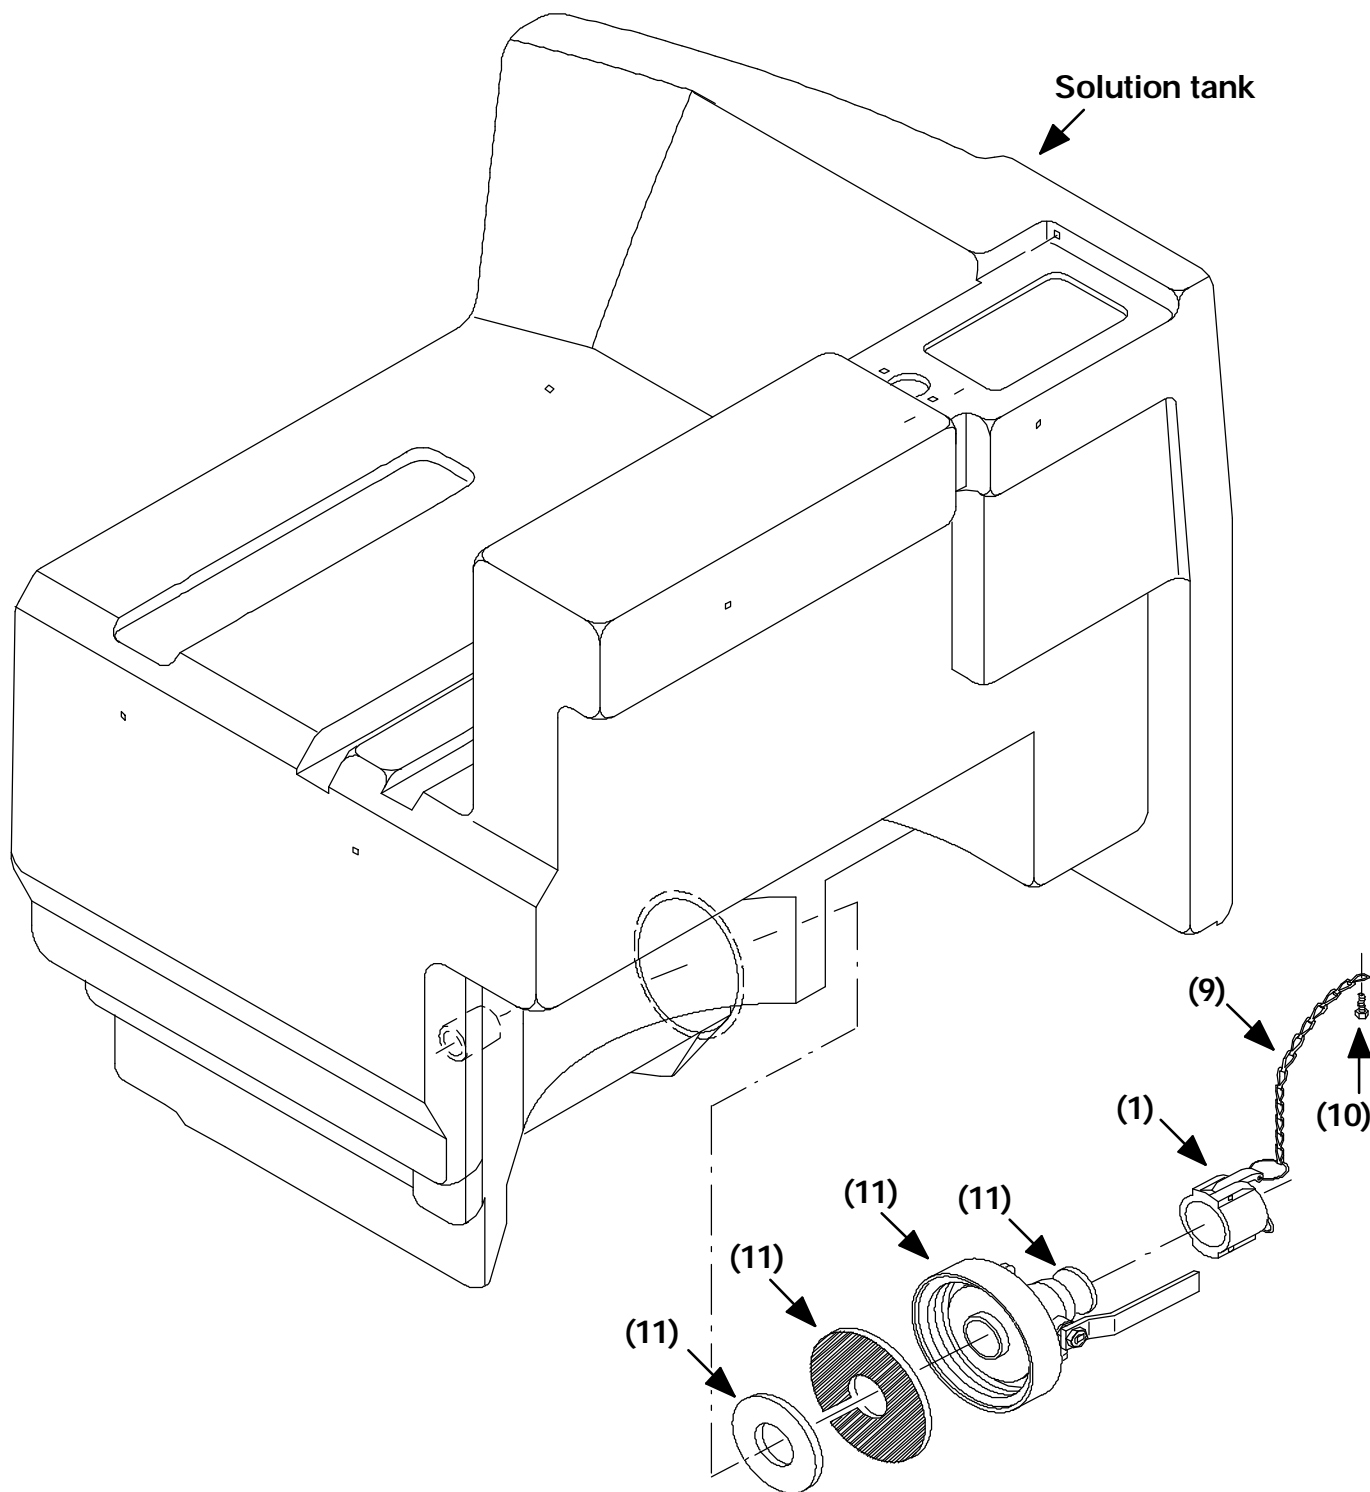

FIG. 2 - Solution Tank Assembly
4. Install the new rear bumper (2) using the LH (4) and RH (3) mount brackets, eight hex screws (5), and eight washers (6). Tighten the hardware to 26 - 43 ft. lb. (Refer to FIG. 2)